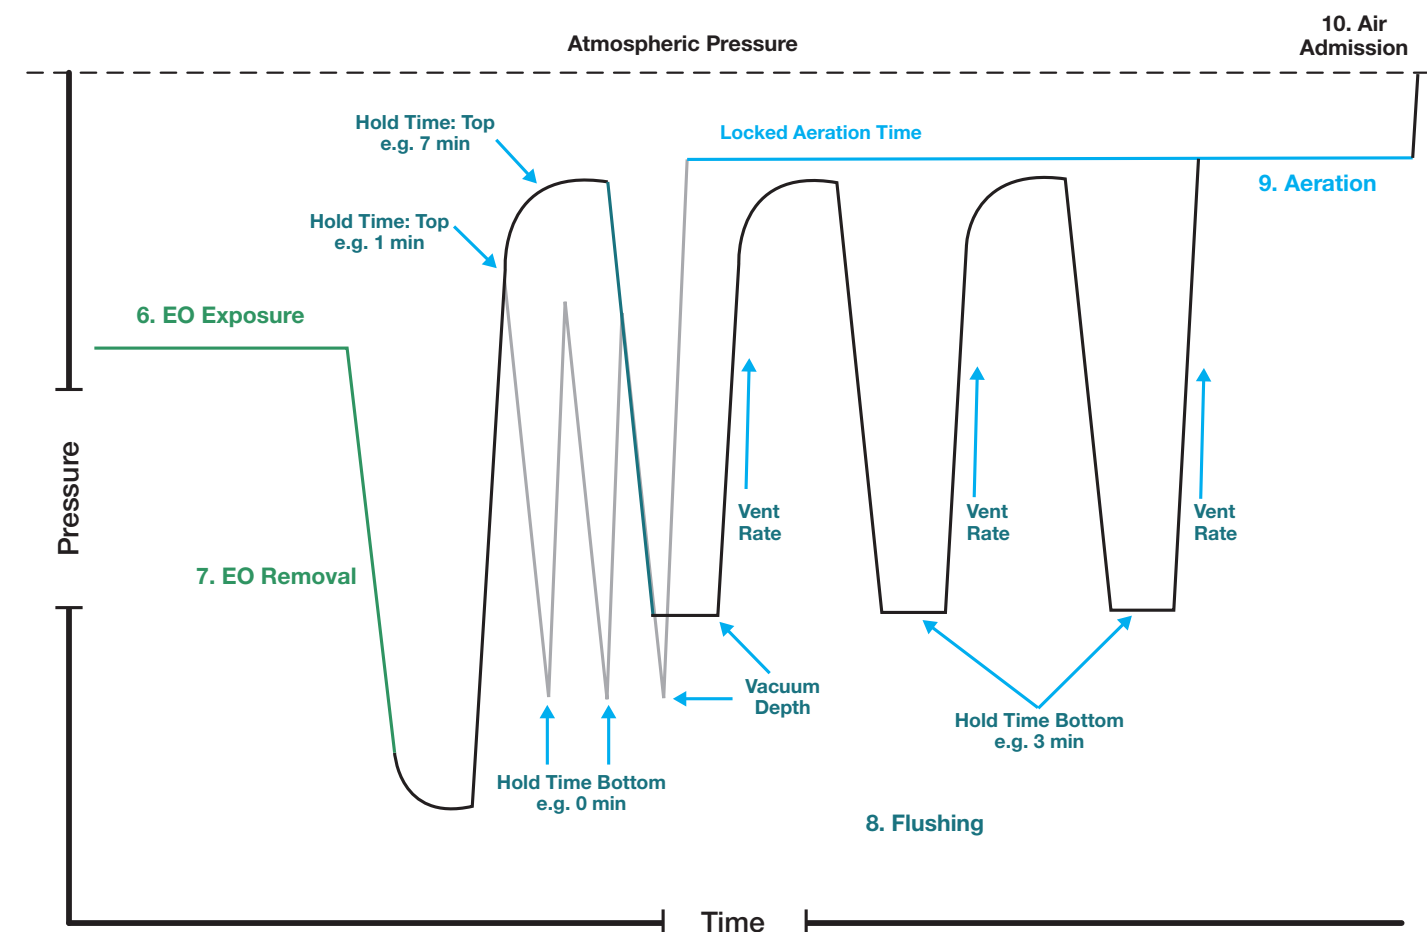

Figure 48.
- **Vent rate** is the rate that filtered air is allowed into the chamber raising the pressure while proceeding to the flushing **Hold time: Top** set point (see Figure 48). Four (4) vent rates are available; 100%, 75%, 50% and 25%. The **vent rate** programmed will apply for all programmed flushing cycles. Vent rate is controlled by the percentage of time the vent valve is energized and opened to the chamber.
- **Hold time: Top** is the amount of time the vent will remain open while the vacuum draws air through the chamber. The Hold time: Top timer starts after Hold time: Bottom is complete. A set point of one minute will produce a sharp transition to the next programmed flushing cycle (Figure 48). A longer Hold time: Top set point will produce a gradual transition to equilibrium of air flowing thorough the chamber, several mBar (kPa) below atmosphere, until the Hold time: Top duration is satisfied and the cycle proceeds to the next programmed flushing cycle (Figure 48).
- **Hold time: Bottom** is the duration the chamber will hold parameters constant after the vacuum level is attained (Figure 48).